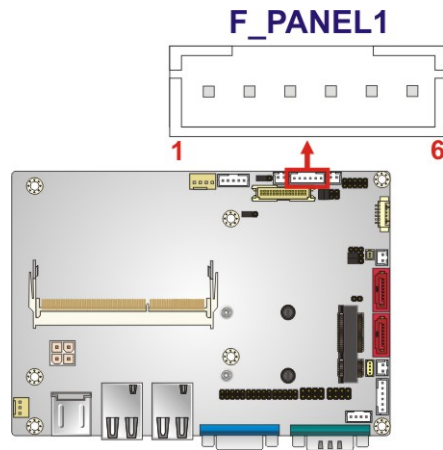

Figure 3-13: Power & HDD LED Connector Location
- CN Location:** See **Figure 3-13**